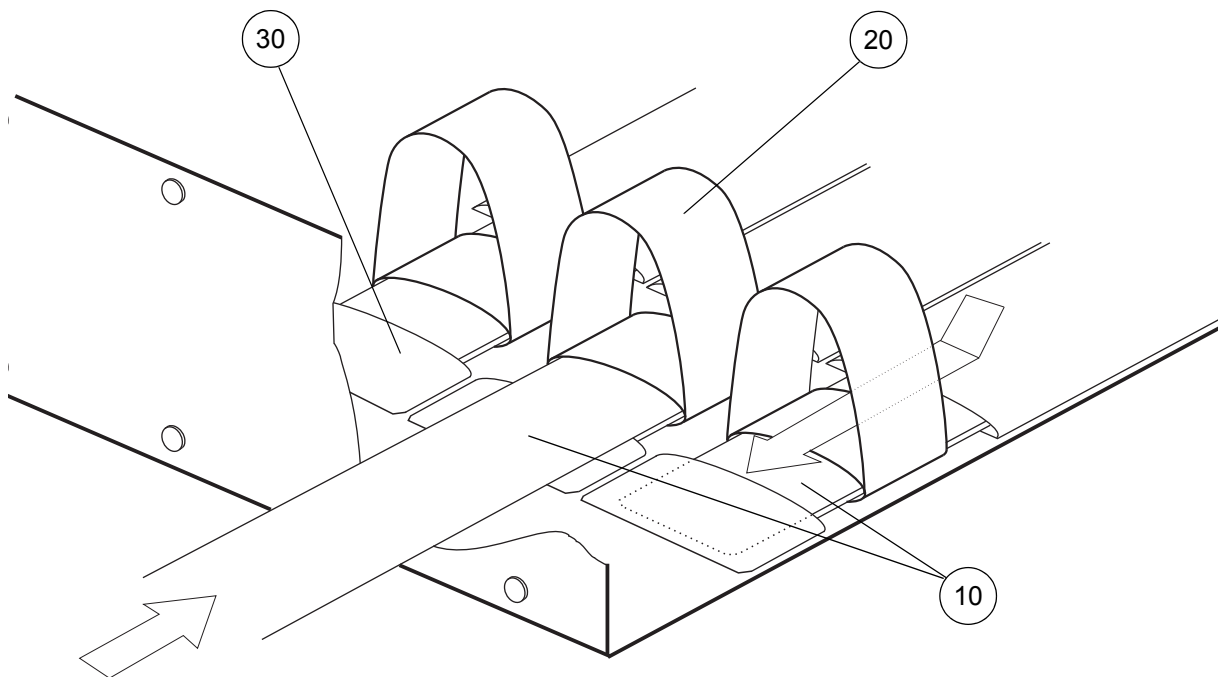

Figure 39 - Replacing the Elastic Loops
- 19.3 Pull the loop sheet pocket (Fig 39, Item 30) towards the manifold to expose the plastic support (Fig 39, Item 40) out of the pocket and pull out the support from all three loops over the top of the manifold while holding the cover and manifold down.
- 19.4 Insert the end of the plastic support (Fig 39, Item 10) into the pocket on the topside of the loop sheet and feed it through to the first gap inside the loop sheet.
- 19.5 Feed the plastic support (Fig 39, Item 40) through the small loop of an elastic loop (Fig 39, Item 20) and then back into the loop sheet. Attach the remaining two elastic loops in a similar manner until the support is fully located in the pocket (Fig 39, Item 30).